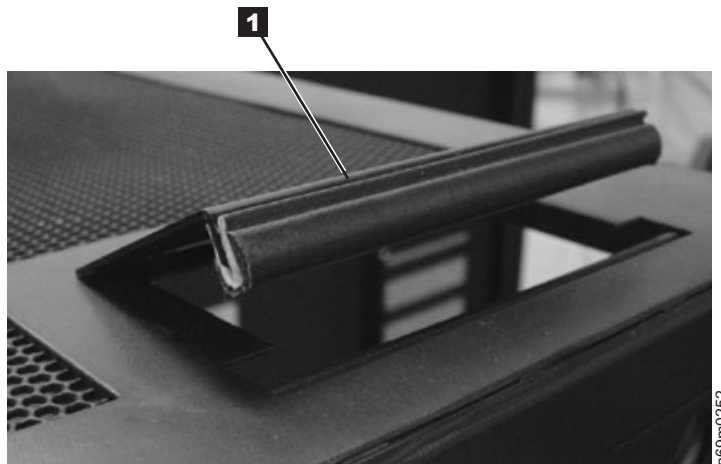

Figure 18. Opening the cable access door at the top of a frame
1. Open the cable access door at the top of the frame (see **1** in Figure 18).